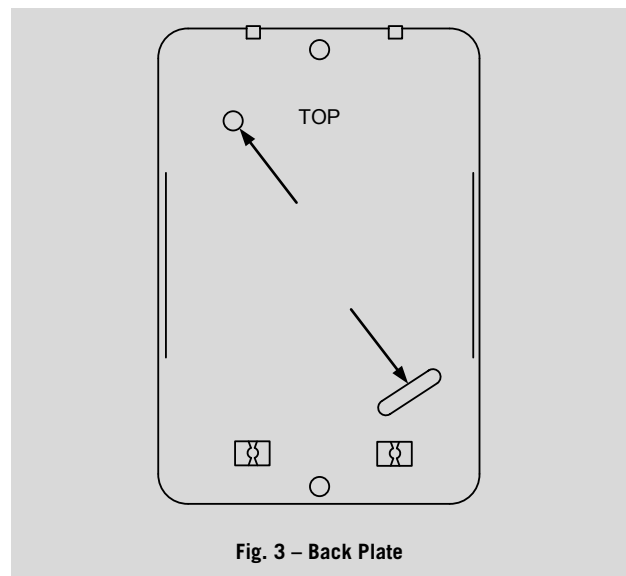

Fig. 3 – Back Plate
- To mount directly to the wall (see Fig. 3 Back Plate), use the back plate of the adjuster as a template to locate the holes. For drywall installation drill two $\frac{3}{16}$ "/5mm holes, insert the plastic wall anchors (included) and attach the base plate of the adjuster using the screws provided.
- To mount onto a standard 2x4 electrical box use the holes top and bottom and connect directly to electrical box (see Fig. 3 Back Plate).